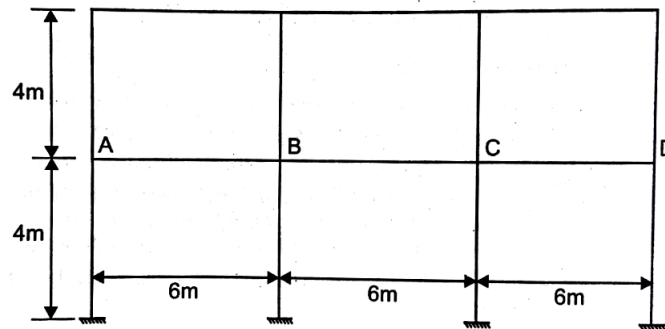

Figure 2.1
1. In a multistoried building, the frame shown in Figure 2.1 are spaced at 4 m intervals. Dead load from the slab is 3 KN/m^2 and the live load is 5 KN/m^2 . Analyse the beam BC for mid span positive bending moment. Self weight of the beams may be ignored. Use Substitute Frame method